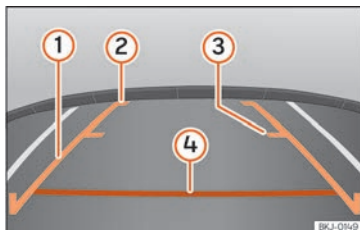

Fig. 174 Display on the Infotainment system screen.: guide lines.
- Vehicle load modifies the representation of the guide lines » » Fig. 174. The width represented by the lines decreases with vehicle load. Pay special attention to the surroundings when the inside of the vehicle of the luggage compartment are loaded.
Meaning of the orientation lines »» Fig. 174